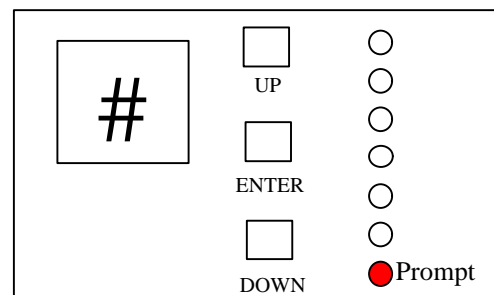

Figure 7
- To set the amount of time before the timed prompt activates, press DOWN until the lamp next to PROMPT is illuminated. Press ENTER to display the value of this mode (Figure 7).